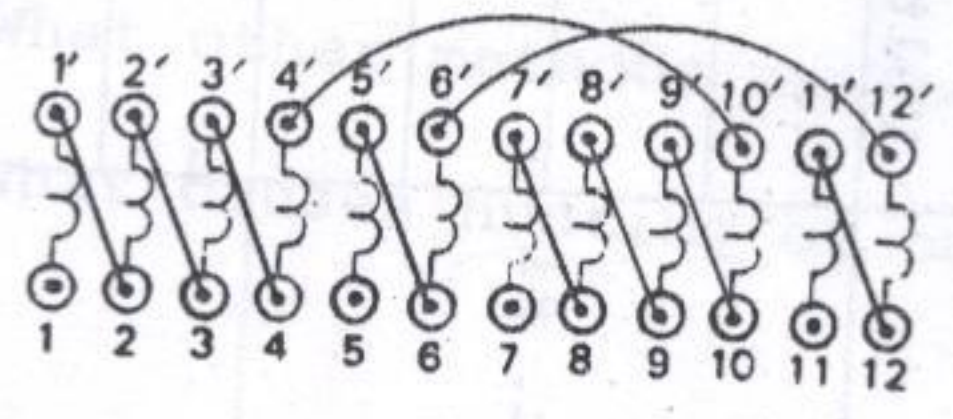

FIGURE 22: INDIVIDUAL MACHINE CONNECTIONS.
1. Connect each of the Dynamometers to operate as shunt motors as shown in Figure 22. Adjust their field rheostats to the minimum resistance position and the auxiliary resistance switch to "out".
2. Connect each of the Universal Machines to operate as alternators as shown in Figure 22.